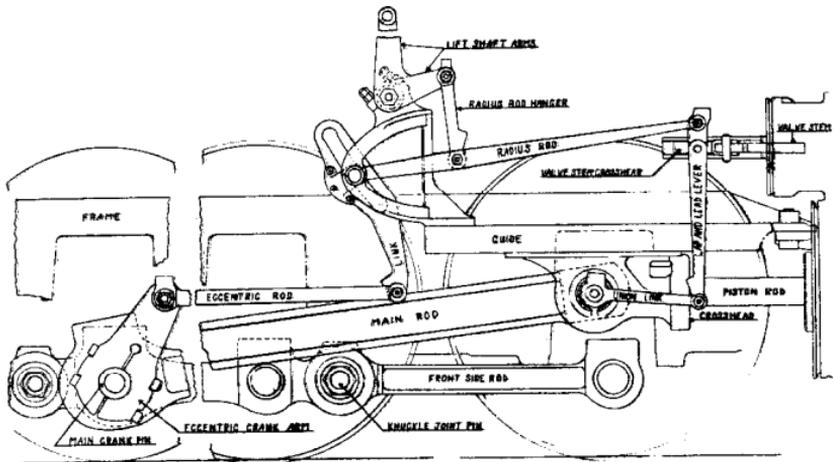

FIG.53- WALSCHAERT VALVE GEAR ARRANGEMENT.
**Walschaert Valve Gear**—This valve gear (Fig. 53, page 119) consists of the following principal parts: